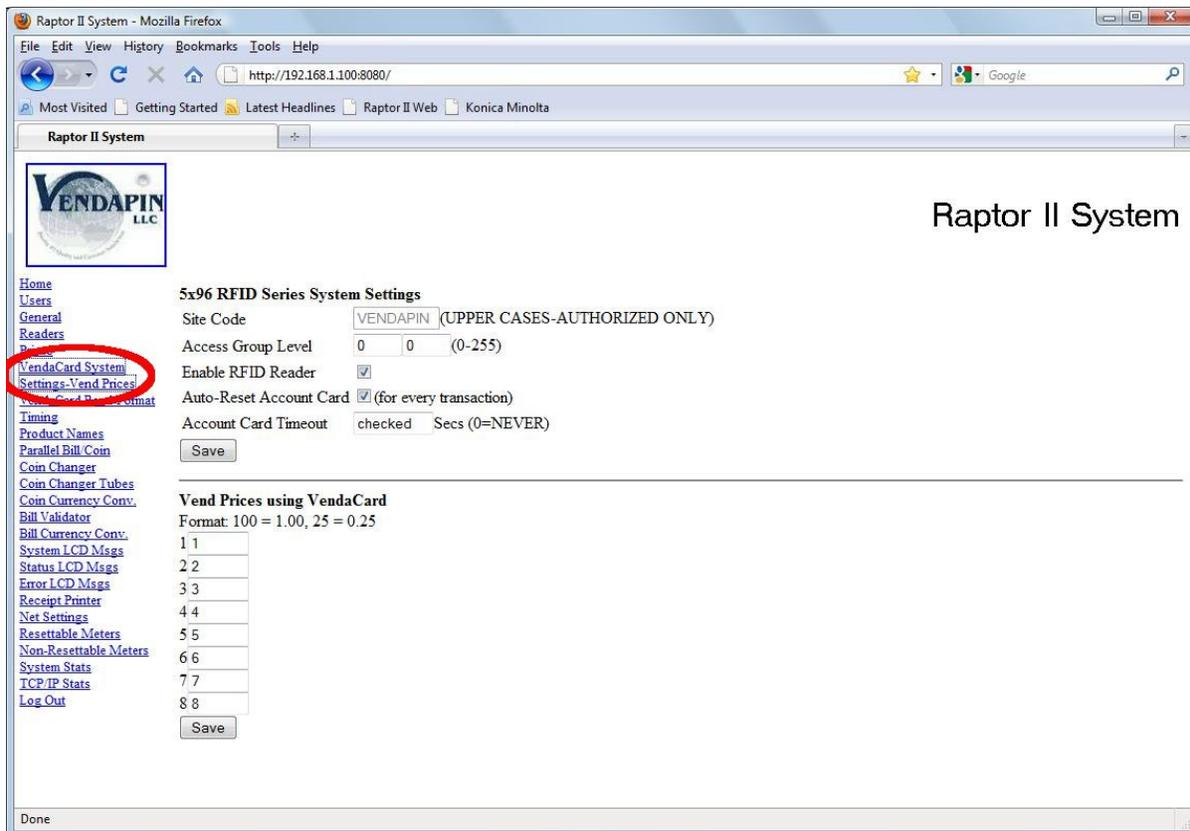

Figure 23: Web Browser – Price Settings
1. Click on the **VendaCard System Settings-Vend Prices** link. Figures 23.